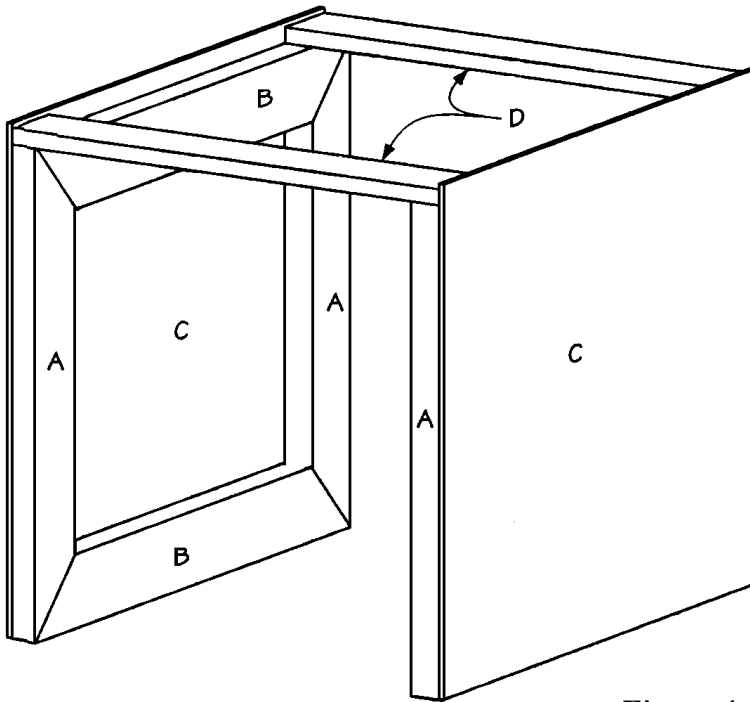

Figure 4
8. Cut four back frames (D) from 1 x 4 pine, each measuring 23 inches long.
9. Place two frame assemblies on a level surface, parallel to each other, and 21-1/2 inches apart. The 1-inch-wide side extensions should be placed on top and to the outside. Fit two back frames (D) between the two sides (C) over the long frames (B), as shown in Figure 4. Apply glue to the meeting surfaces and screw through the back frames (D) into the edges of the long frames (B). Use two 1-1/2-inch screws on each joint.